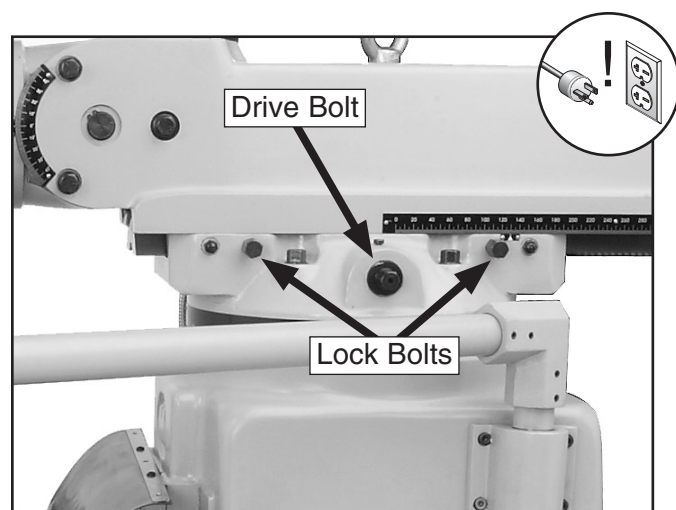

Figure 33. Ram horizontal lock bolts and drive bolt.
2. Loosen the two horizontal lock bolts shown in **Figure 33**.